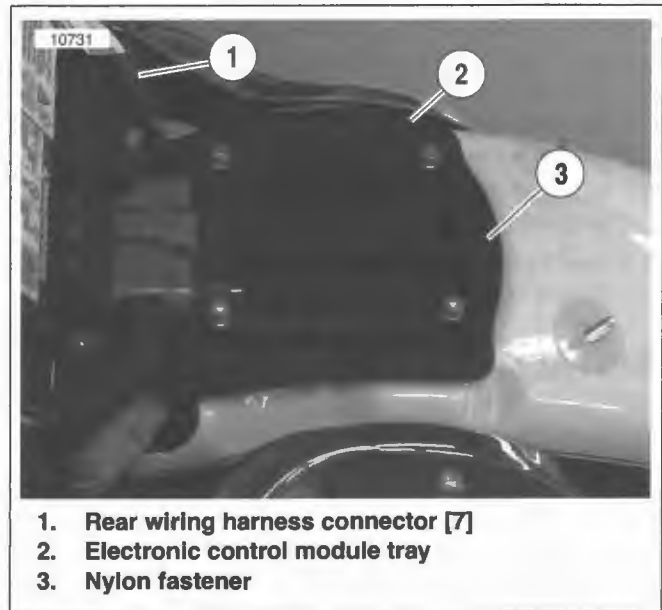

Figure 2-139. Electrical Box: Typical
3. See Figure 2-139. Disconnect rear wiring harness connector (1) [7] under seat.
4. Remove nylon fastener (3) from electrical box (2).
2. See Figure 2-139. Install nylon fastener (3) into electrical box (2) and fender.
3. Connect the harness at connector (1) [7].